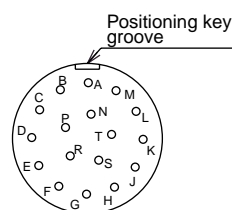

Fig. 20
- (3) Check criteria after fastening the encoder: after carrying out the installation work for the encoder, check the nominal dimension  $A=23\text{mm}$  between the encoder installation surface and housing. It can be determined that if it is 23mm the installation has been done correctly. (If possible aim for between 22.8mm and 23.2mm)
- (4) Install in the direction of the connector, positioning key groove on the load shaft side. (Fig. 20)